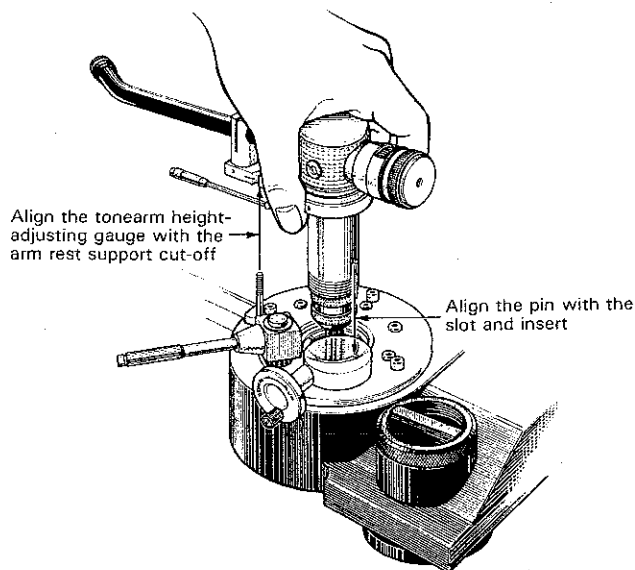
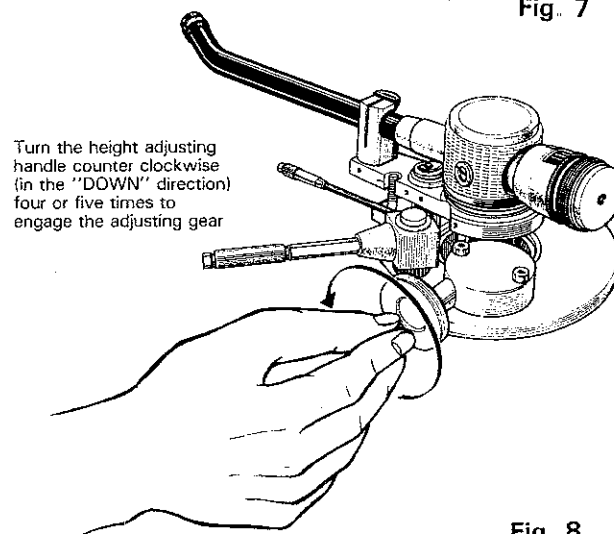

Fig. 7
Fig. 8
2. Align the tonearm height-adjusting gauge with the arm rest support cut-off and carefully insert the tonearm into the arm base (Fig. 7). Turn the height adjusting handle counterclockwise (in the "DOWN" direction) four or five times to engage the adjusting gear. (Fig. 8). Adjust the tonearm height after installing the cartridge (refer to page 9)